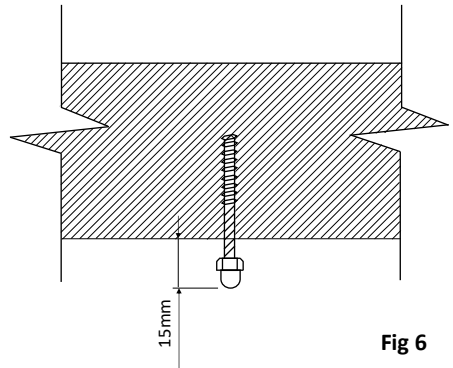

Fig 6
3. Screw bolt into 4 holes leaving 15mm from the bulhead to the end of the bolt and cap (Fig 6).